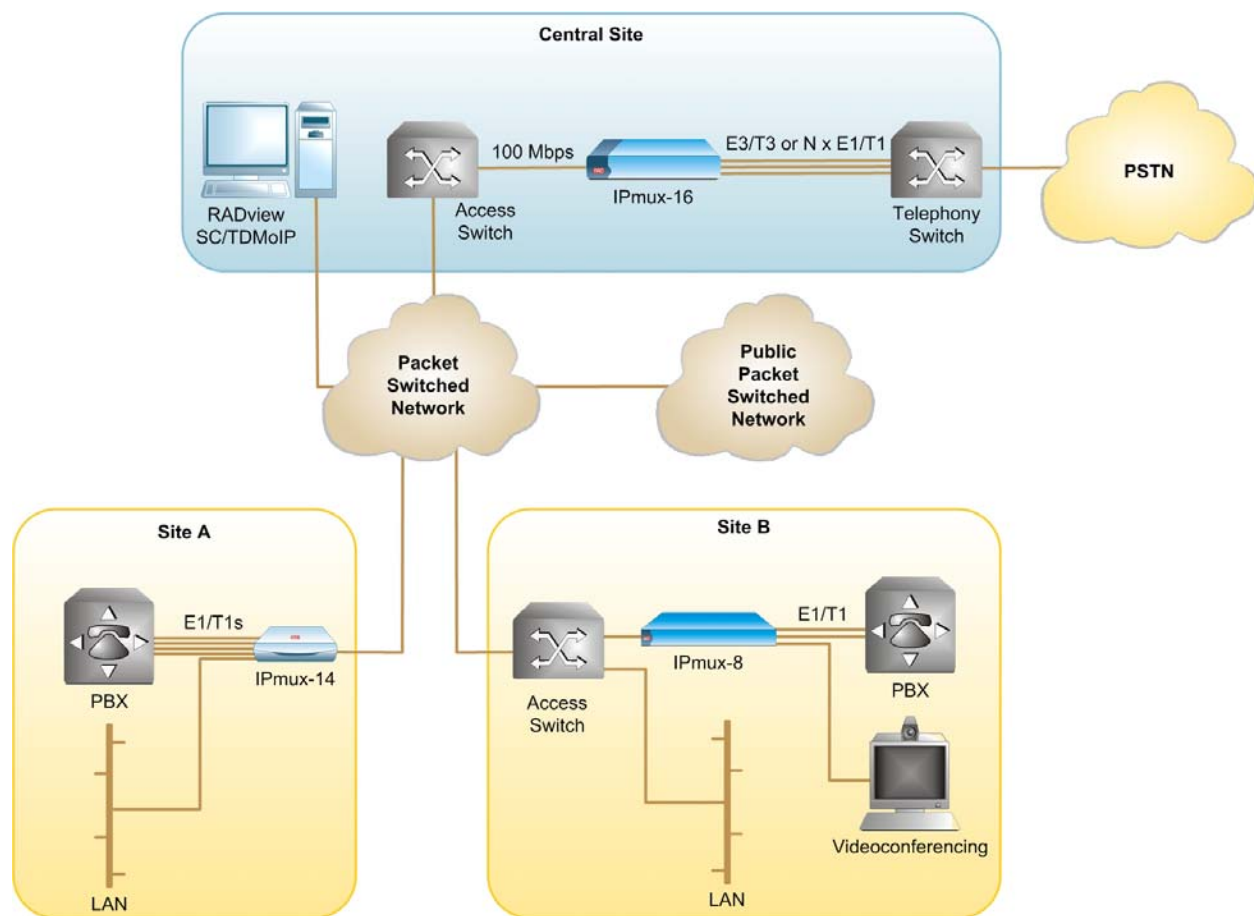

Figure 1-3. IPmux Devices Managed by RADview Network Management System
- Figure 1-3 shows IPmux devices managed by the RADview Network Management System.